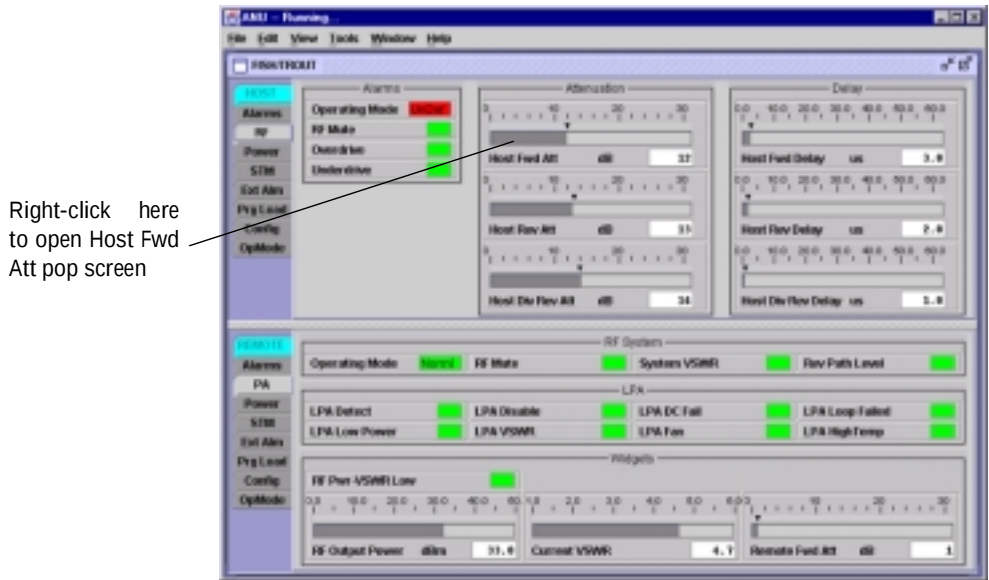
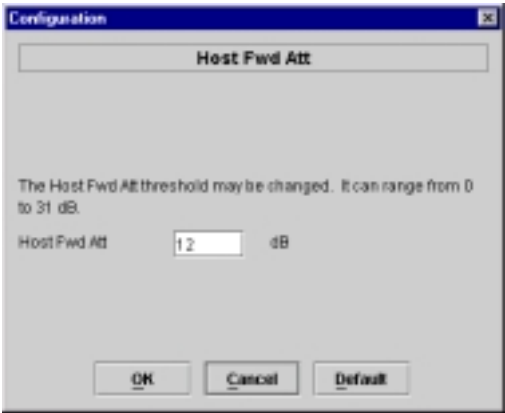

Figure 4-6. HOST RF Display
Figure 4-7. Host Fwd Att Pop-Up Screen
1. Click on the **HOST RF** tab. The **HOST RF** display will open within the EMS main window as shown in Figure 4-6.
2. Right-click on the **Host Fwd Att** section of the display (see Figure 4-6). The **Host Fwd Att** pop-up screen will open as shown in Figure 4-7.